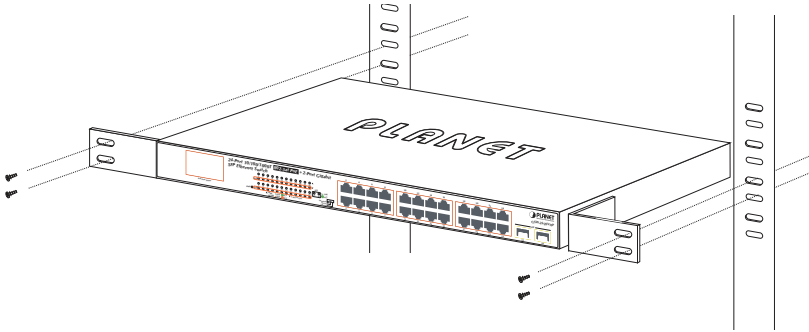

Figure 3-3: Mounting the 802.3at PoE+ Switch in a Rack
Step 5: After the brackets are attached to the 802.3at PoE+ Switch, use suitable screws to securely attach the brackets to the rack, as shown in Figure 3-3.